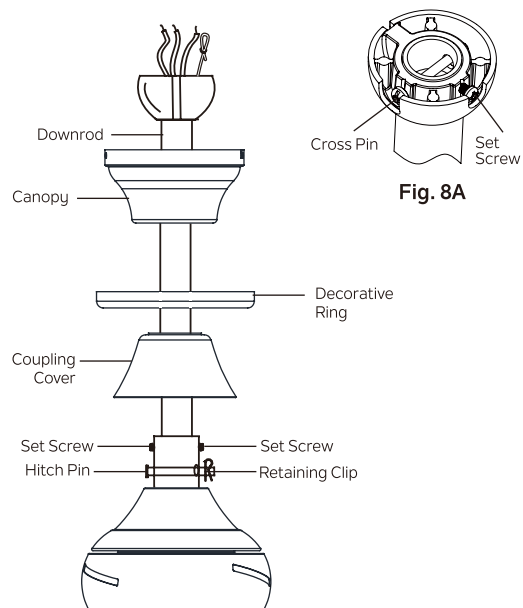

Fig. 8B
Step 8. Slip the coupling cover, decorative ring (finished side facing motor), and canopy onto the downrod. (Fig. 8B).